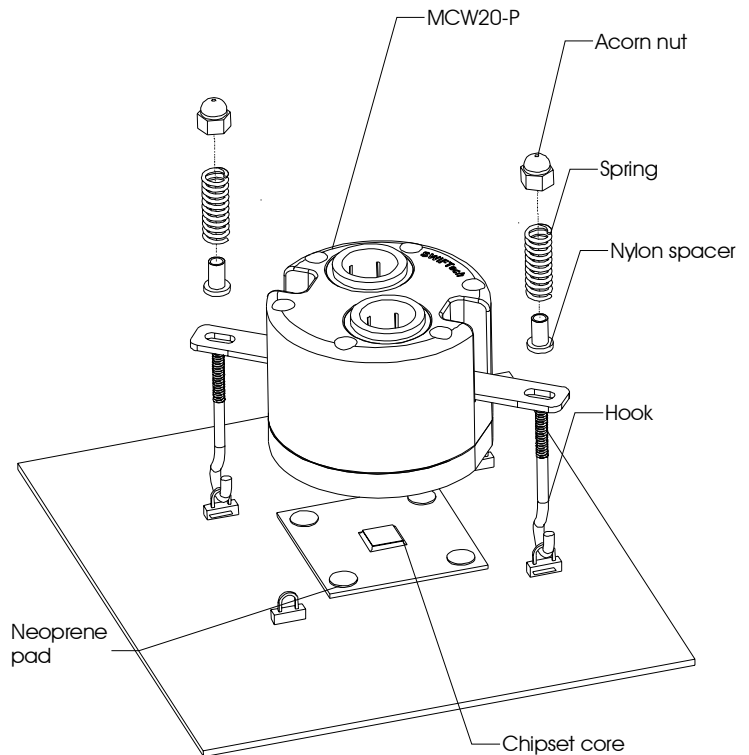

Figure 9
- ❑ Place the MCW20-P™ onto the processor, as shown in figure 9: hooks should be engaged into two diagonal motherboard loops first, then install the nylon tension limiters (flange facing down), the springs, and tighten the assembly with the acorn nuts.